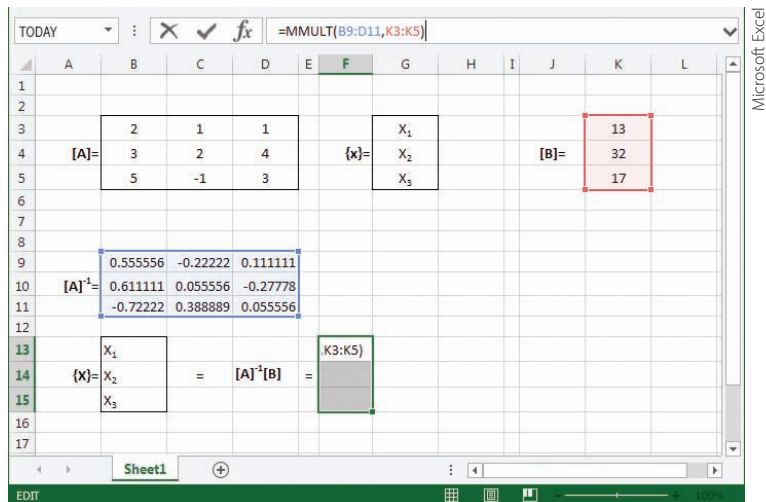

FIGURE 14.44
4. Type the information shown in cells A14, B13 through B15, C14, D14, and E14, as shown in Figure 14.44.